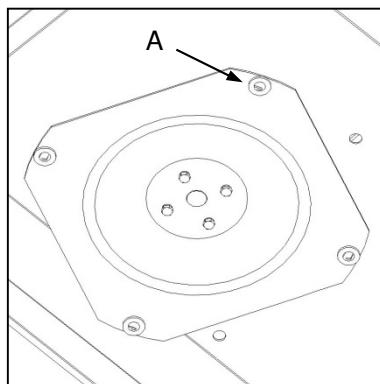

Fig. 8
- ✓ Check blade mounting holes (Fig. 8-A) for signs of wear, elongation or fractures. In the event of any observed defect do NOT attempt a repair, but immediately replace the defective disc.
- ✓ Gaan lemmonteringssgate (Fig. 8-A) na vir tekens van slytasie, rekking of breeke. Indien enige defek opgemerk word, moet NIE probeer om dit herstel nie, maar vervang die defekte skyf onmiddellik.